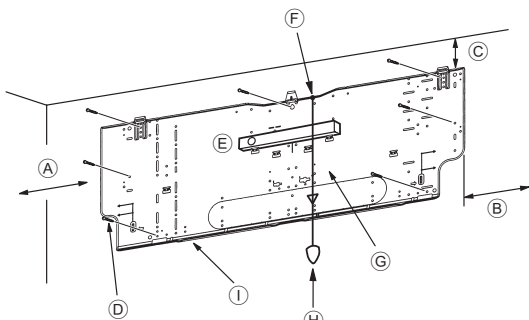
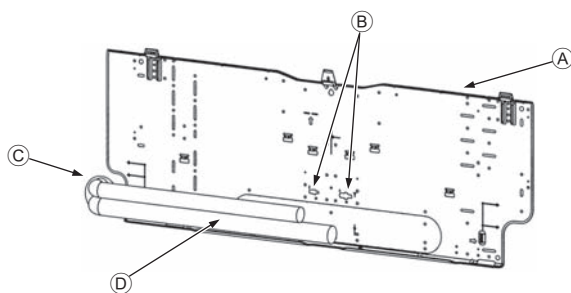

Fig. 3-4
Fig. 3-5
■ PKFY-P-VKM-E (Fig. 3-4)
- ▲ D Fixing screws (4 × 25) ②
- ▲ I Mount board ①
3.3. When embedding pipes into the wall (Fig. 3-5)
- ▲ A Mount board ①